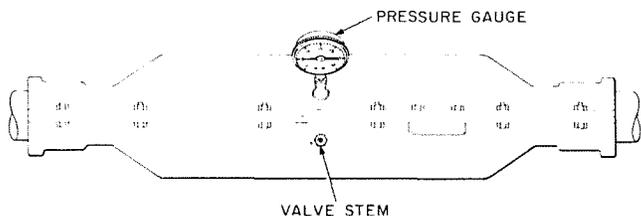

Fig. 30—Splice Case—Flash Testing
4.01 Flash test each splice case installation *after a back pressure of 5 pounds* has been reached. Use B or C pressure testing solution as appropriate for test (Fig. 30).